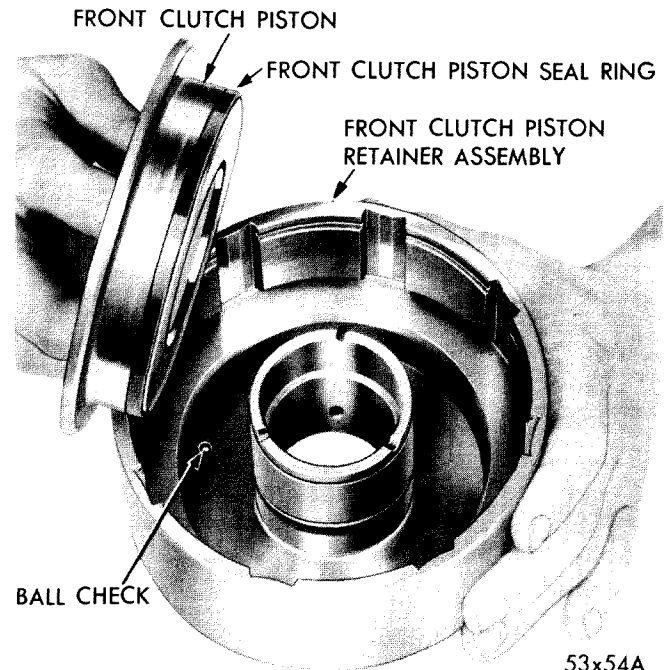

Figure 214—Removal and Installation of Front Clutch Piston Assembly
Remove lever retainer (K) and levers (L) from front clutch piston retainer (N). Using a twisting motion, remove the piston assembly from the retainer, as shown in Figure 214.
Lubricate and install outer seal ring (R) on clutch piston with lip of seal facing away from flange. Place piston assembly (M) in clutch retainer and with a twisting motion, seat piston in bottom of retainer, see Figure 214.